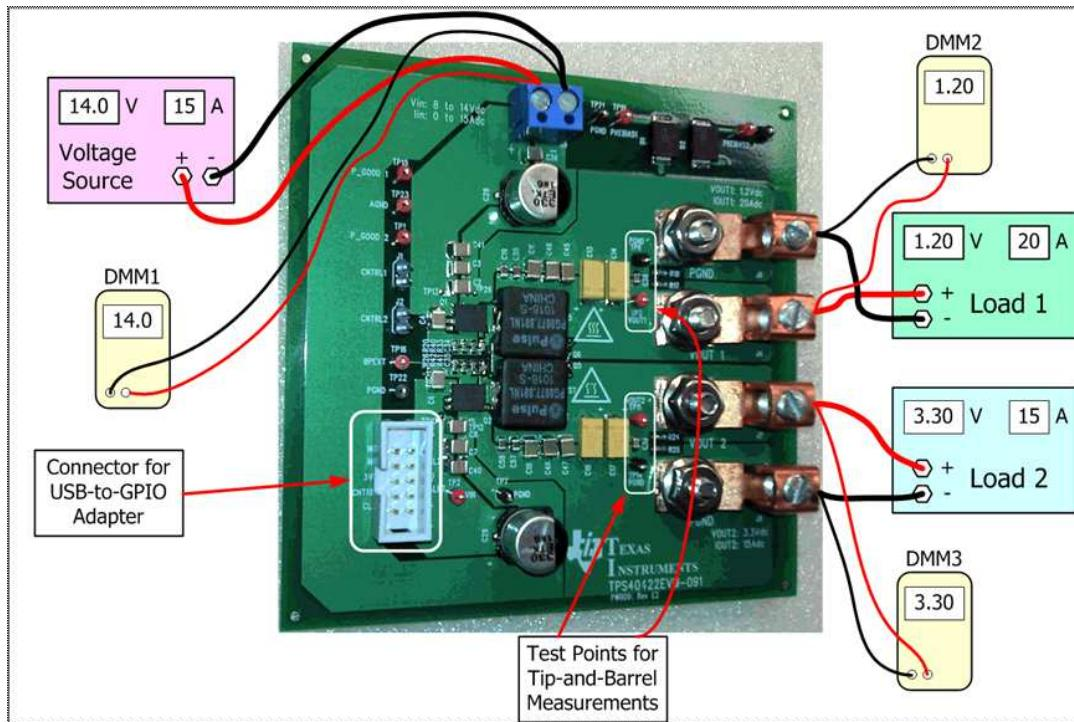
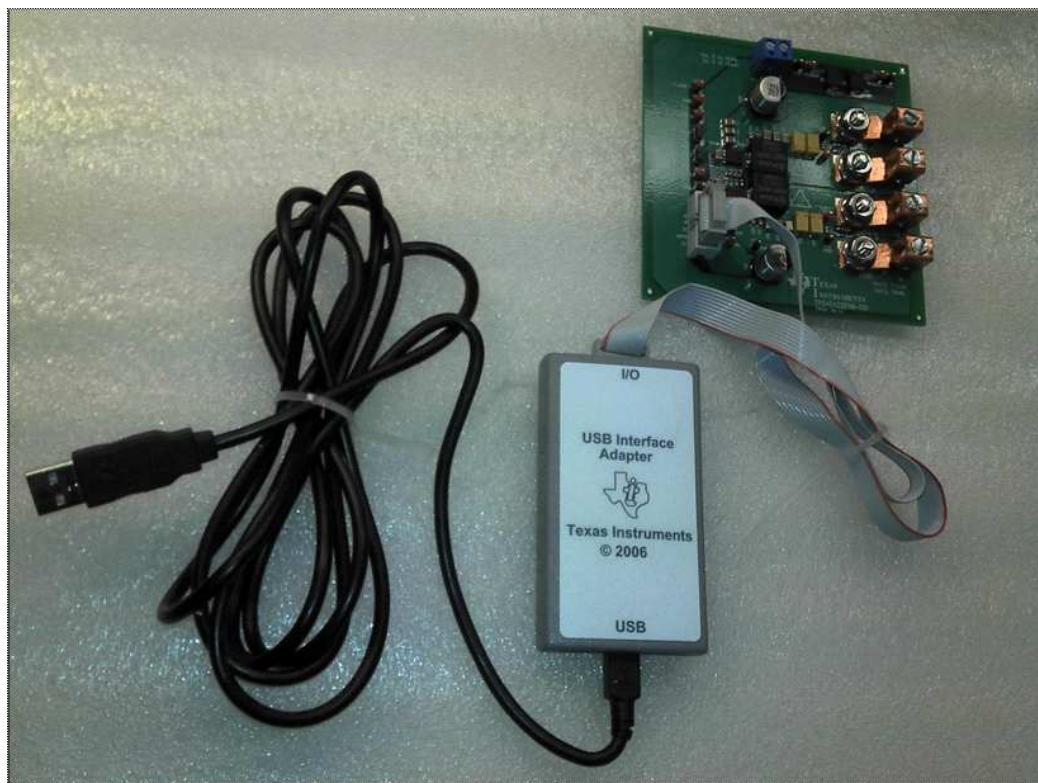

Figure 2. PWR091EVM Recommended Test Setup
Figure 3. Texas Instruments USB-to-GPIO Adapter and Connections
The Fusion Digital Power Designer is the graphical user interface (GUI) used to configure and monitor the Texas Instruments TPS40422 power controller on this evaluation module. The application uses the PMBus protocol to communicate with the controller over serial bus by way of a TI USB adapter (see Figure 3).
Voltage Source: The input voltage source VIN must be a 0-V to 14-V variable dc source capable of supplying 15 Adc. Connect VIN to J5 as shown in Figure 2.
Multimeters: It is recommended to use three separate multimeters as shown in Figure 2. One meter to measure Vin, one to measure Vout1 and the third to measure Vout2.
Output Load: Two variable electronic loads are recommended for the test setup as shown in Figure 2. Load 1 must be capable of 25 A at voltages as low as 0.9 V. Load 2 must be capable of 20 A at voltages as low as 3 V.
USB-to-GPIO Interface Adapter: A communications adapter is required between the EVM and the host computer. This EVM was designed to use the Texas Instruments USB-to-GPIO Adapter (see Figure 3). This adapter can be purchased at <http://www.ti.com/tool/usb-to-gpio>.
2. Apply the input voltage to the EVM. See Figure 2 and Figure 3 for connections and test setup.
1. Set up the EVM as described in Section 4.3 and Figure 2.